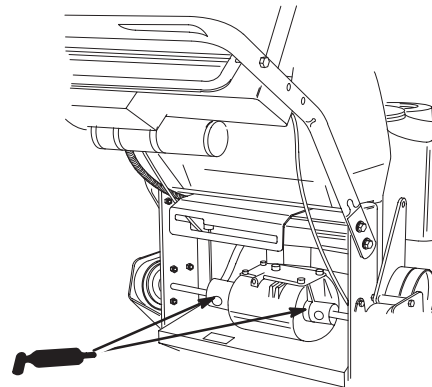

Figure 32
1. Lubricate the transmission couplers located in the back of the machine (Fig. 32).